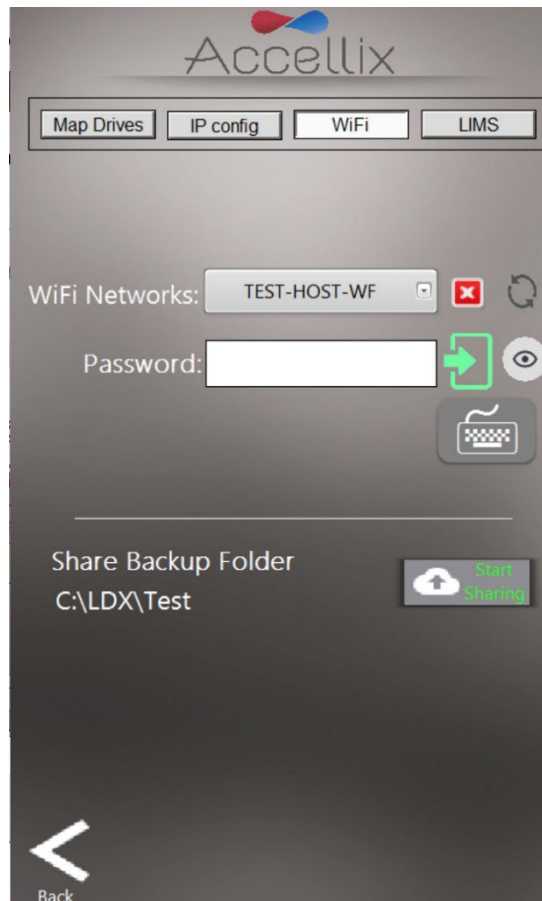

Figure 28: Network screen: Wi-Fi tab
3. The Wi-Fi tab (Figure 28 Network screen: Wi-Fi tab) is used to connect to a Wi-Fi network. To connect:
If the backup location has been set to a folder on the C: drive (see section 9.4.10.2), the options shown in the bottom half of Figure 28 are displayed. Here it is possible to share the backup location on C: